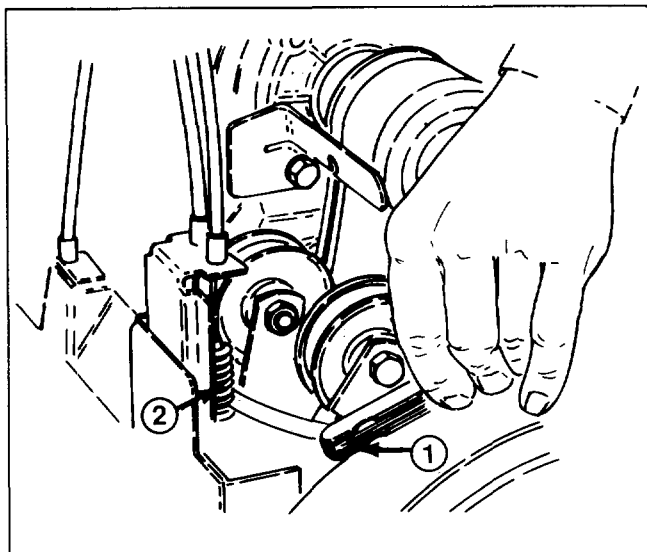

Figure 28
3. **CHECKING IMPELLER CABLE ADJUSTMENT—**Depress the auger/impeller control lever on the right hand grip. Hold the lever and insert a .010" (.25 mm) feeler gauge between a coil in the center of the spring (Fig. 28). Adjust the cable to achieve .010" (.25 mm) gap between the coils.